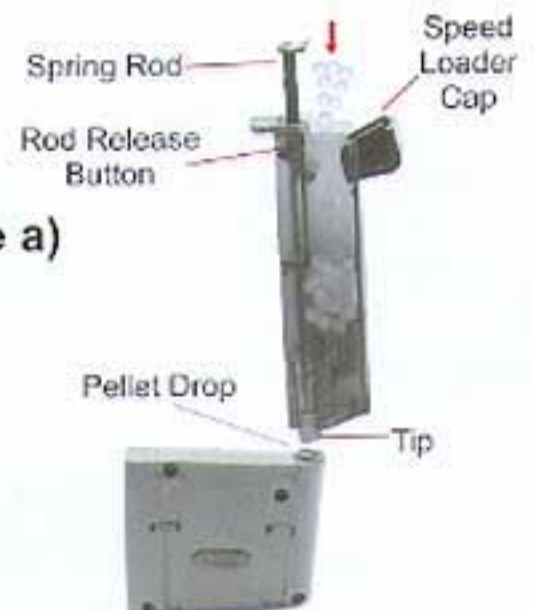

Fig 2.1
- Locate and push the Rod Release Button to release the Spring Rod. (Fig 2.1)
- Align the Tip of Speed Loader with the Pellet Drop of the magazine. (Fig 2.1)